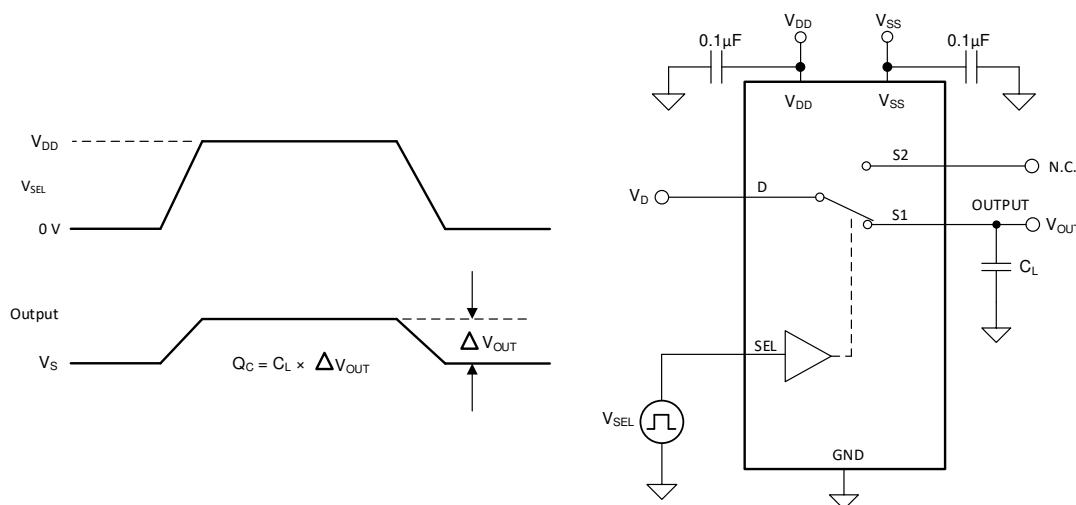

Figure 12. Charge-Injection Measurement Setup
The TMUX1237 has a transmission-gate topology. Any mismatch in capacitance between the NMOS and PMOS transistors results in a charge injected into the drain or source during the falling or rising edge of the gate signal. The amount of charge injected into the source or drain of the device is known as charge injection, and is denoted by the symbol Q_C . Figure 12 shows the setup used to measure charge injection from Drain (D) to Source (Sx).